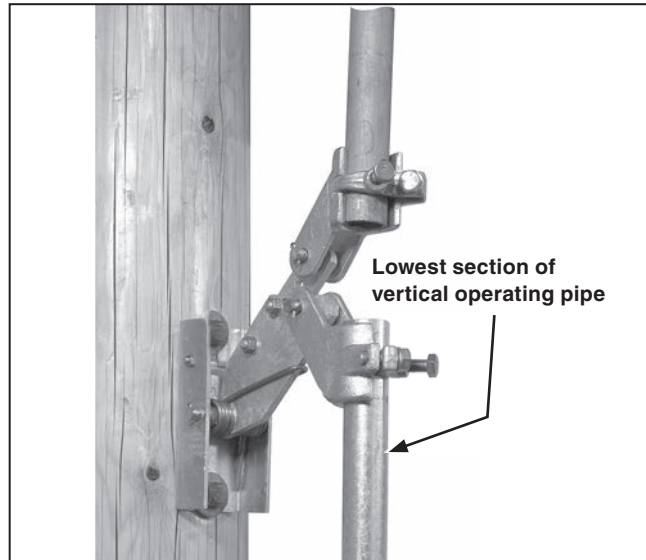

Figure 29. Installing the lowest operating pipe section into the rod guide.
STEP 27. Insert the upper end of this pipe section in the lowest rod guide or—if only one vertical operating-pipe section is used—the offset coupling attached to the switch drive lever. While holding the operating handle at a point approximately 20 degrees from the **Closed** position, tighten the rod guide (or switch drive lever) coupling clamp bolt. See Figure 29.